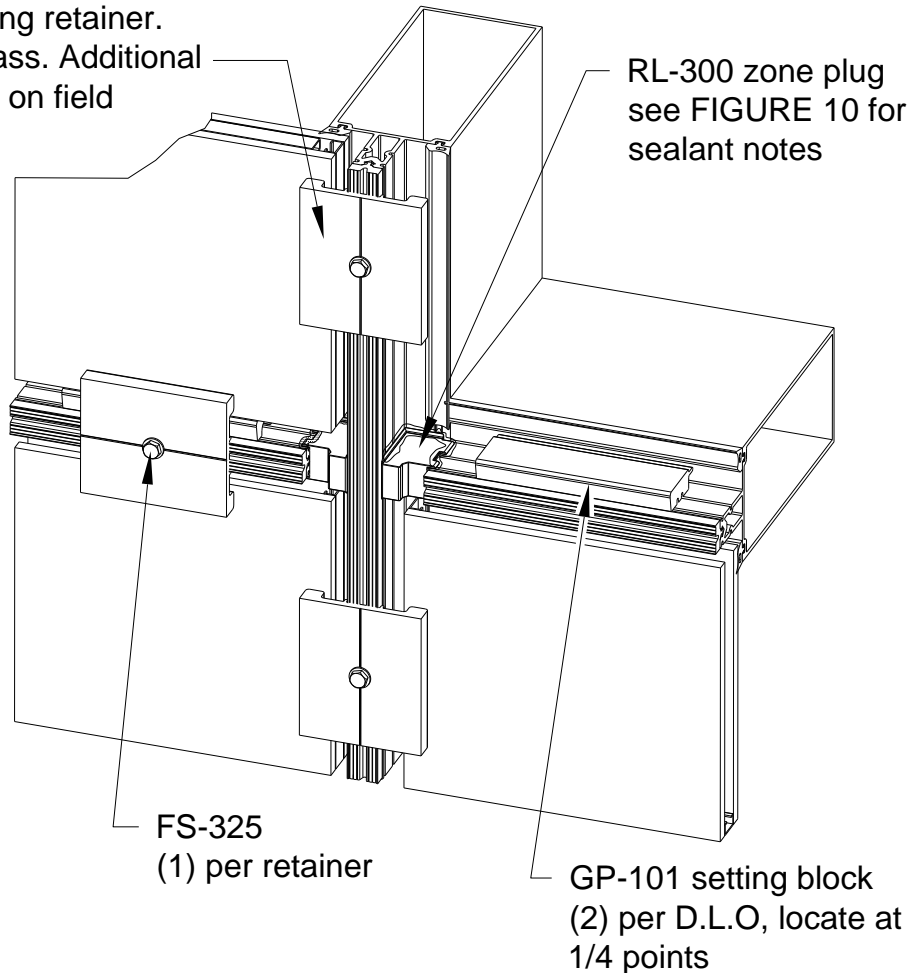
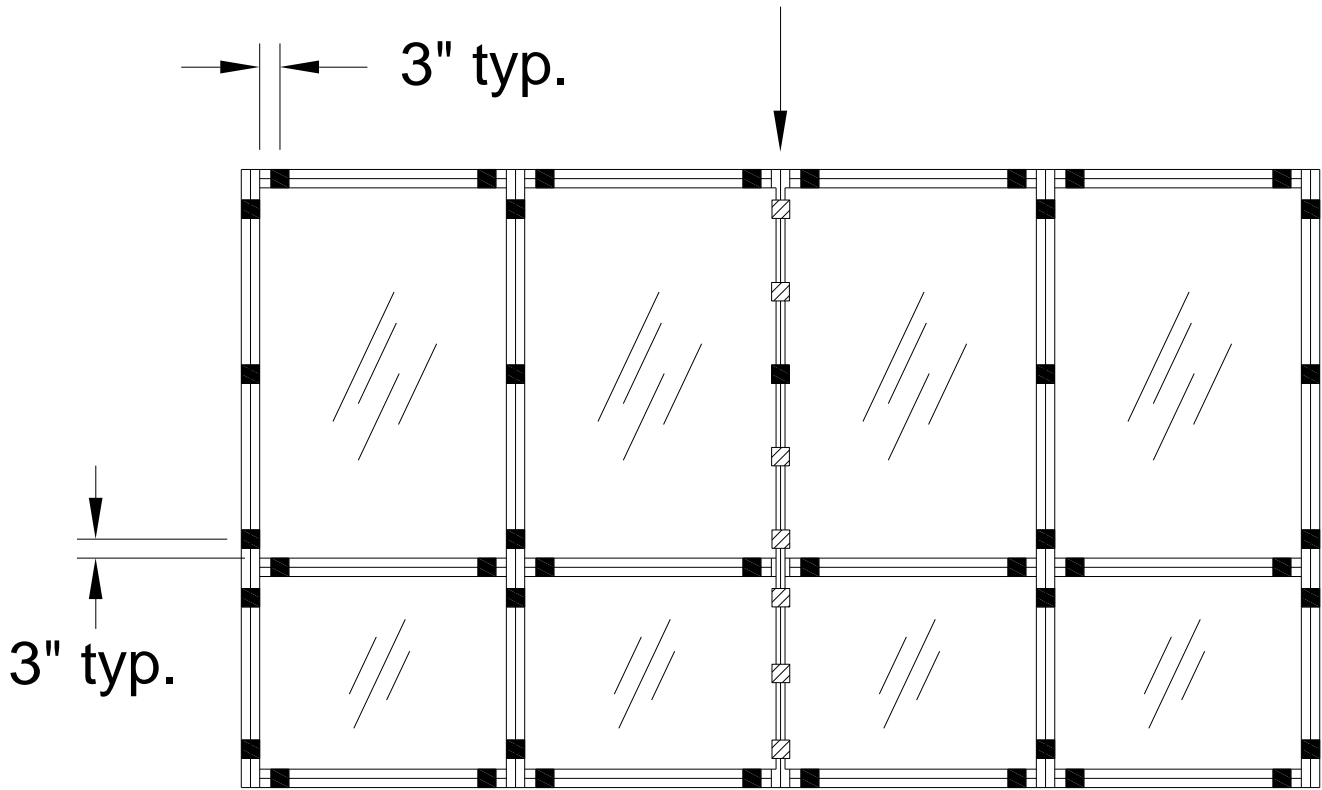

Figure 40: Glazing Instructions
Figure 41: Location of Temporary Glazing Retainers (Typ.)
18.2.3 Full length pressure plates must be installed if severe weather or high wind loads are anticipated. See *Figure 40* and *Figure 41*.